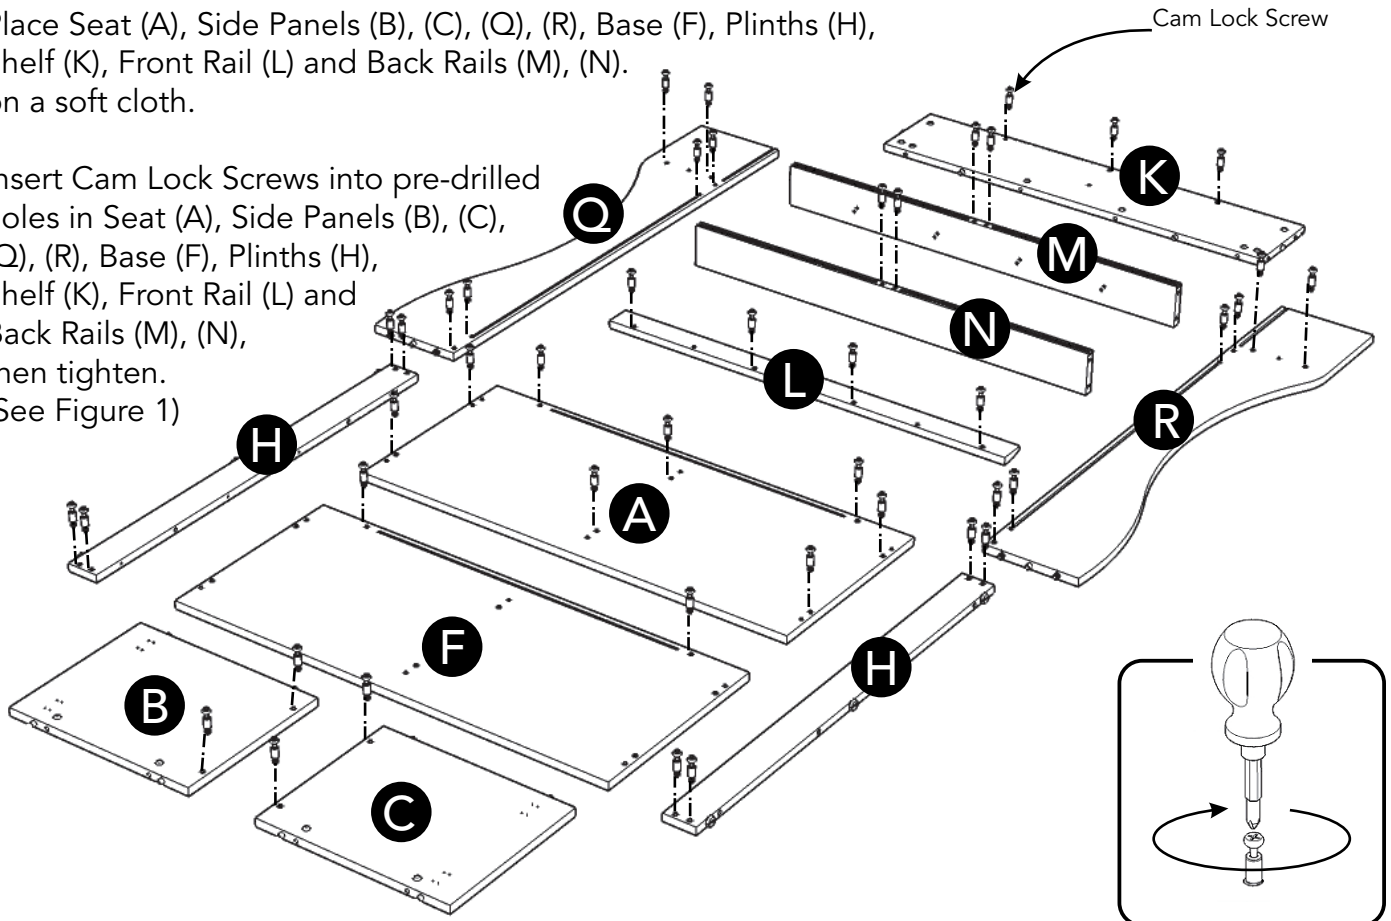

Figure 1
Insert Cam Lock Screws into pre-drilled holes in Seat (A), Side Panels (B), (C), (Q), (R), Base (F), Plinths (H), Shelf (K), Front Rail (L) and Back Rails (M), (N), then tighten. (See Figure 1)